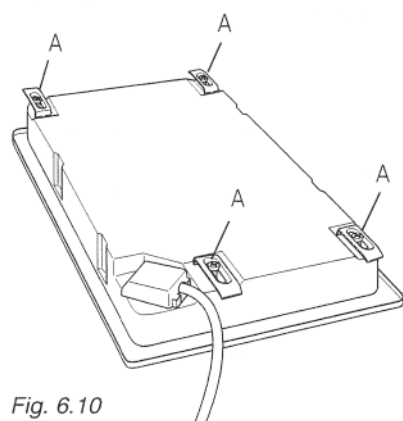
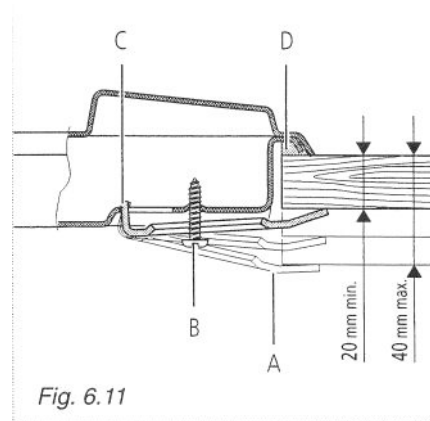

Fig. 6.10
Fig. 6.11
Each cooker top is provided with an installation kit including brackets and screws for fastening the top to fixture panels from 20-30 to 40 mm thick, figs. 6.11 (2 electrical plates hob).
- Turn the cook top over and put tabs "A" (fig. 6.10) into the mountings, only tighten screws "B" a few turns. Make sure that the tabs are mounted correctly as shown in the figures 6.11 and 6.12. Turn the tabs so that the cook top can be put into the hole.